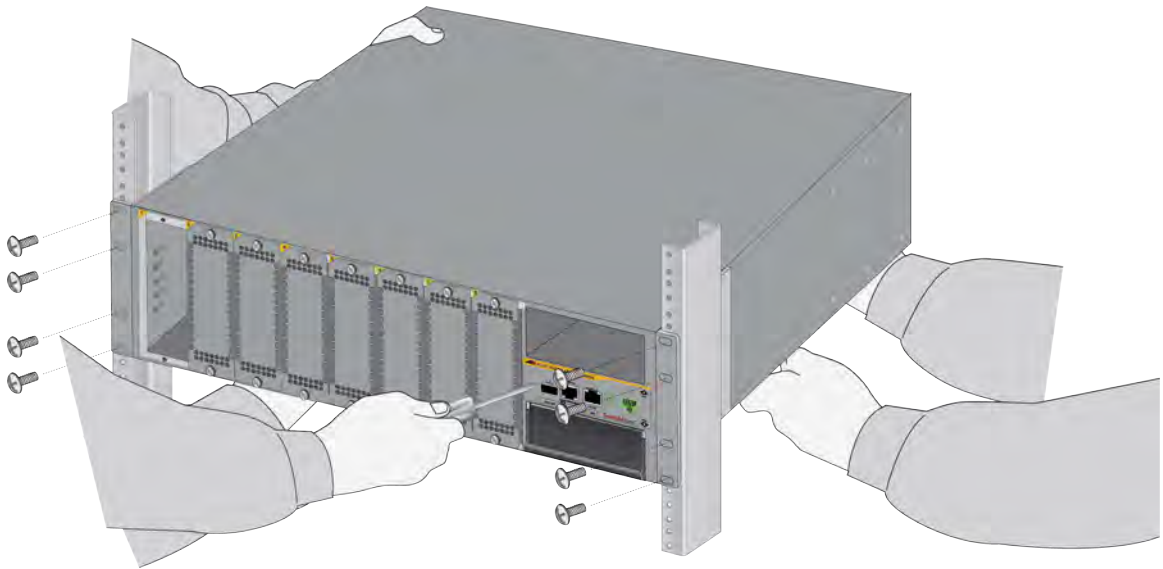

Figure 28. Securing the Switch in the Equipment Rack
3. Have two people hold the switch in the equipment rack at the desired location while you secure it using eight standard equipment rack screws (not provided). Refer to Figure 28.